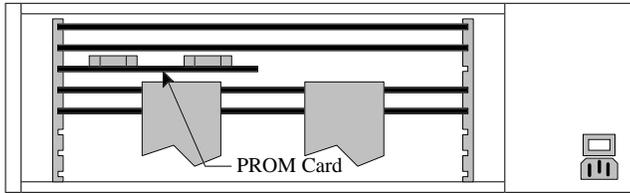

Figure 13 - PROM Card Location In Earlier VAX
4. Remove the PROM Card (see Figure 13) by pulling on the two tabs fastened to the front edge of the card. Once the card has disengaged the connector, use one hand to push up on the board above to help